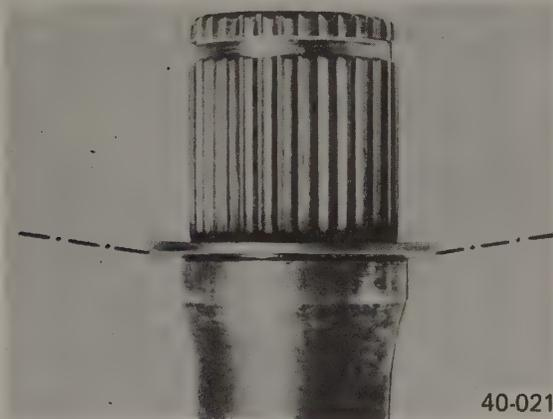

Fig. 5-10. Correct installation of dished washer used with inner CV joint on end of drive axle.
- When installing the CV joint, use a new dished washer and install it with the concave surface facing the end of the shaft, as shown in Fig. 5-10.